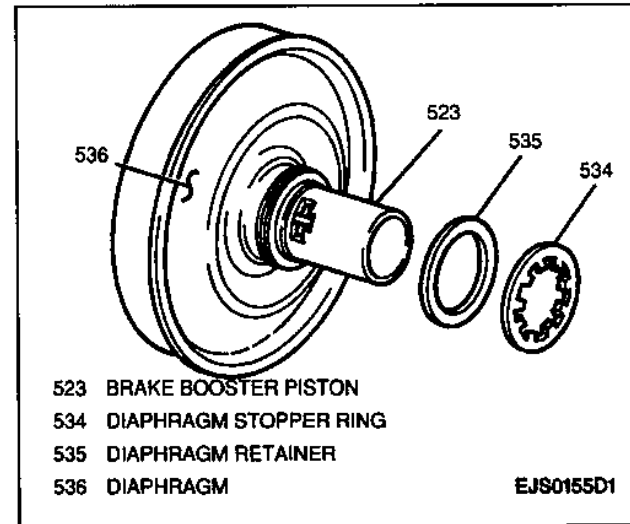

Figure 15—Diaphragm Stopper Ring and Retainer
14. Diaphragm stopper ring and retainer from brake booster piston (Figure 15).